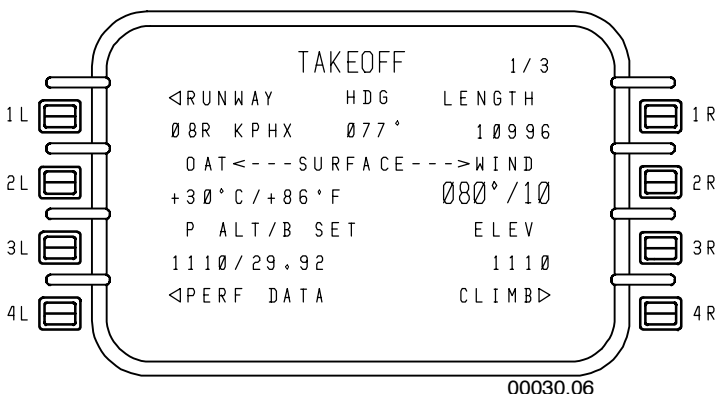

Figure 5-28
- **TAKEOFF 1/3** – Figure 5-28 displays data base information about the departure runway (if one has been selected).